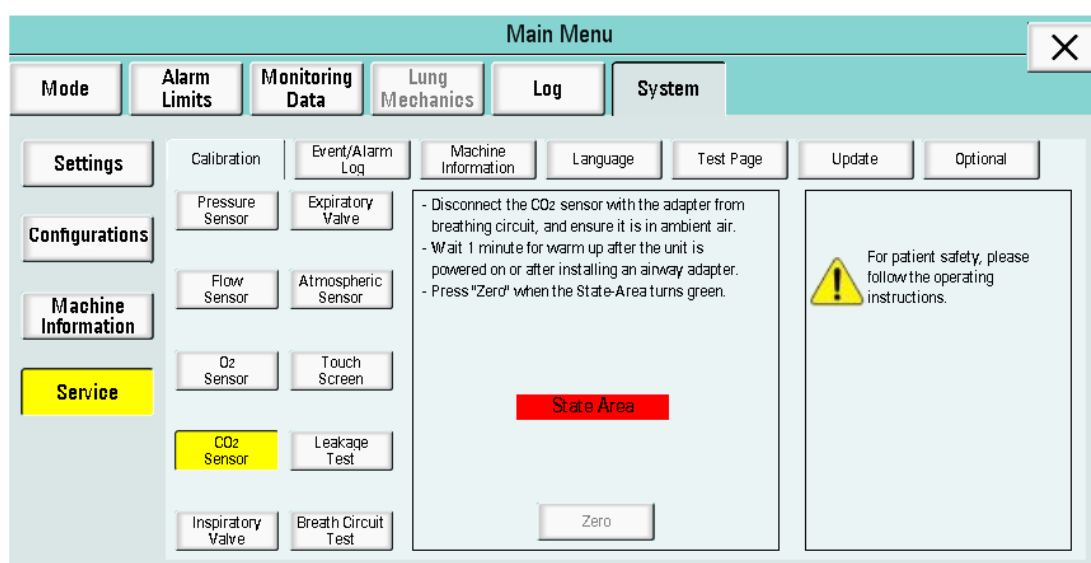

Figure 6-63
(4) CO₂ sensor Calibration: Click “CO₂ Sensor” to enter the interface, as shown in Figure 6-63. A message displayed: “Disconnect the CO₂ sensor with the adapter from breathing circuit and ensure it is in ambient air. Wait 1 minute for warm up after the unit is powered on or after connecting an airway adapter. Press “Zero” when the State-Area turns green”. Please follow the prompt message to calibrate.